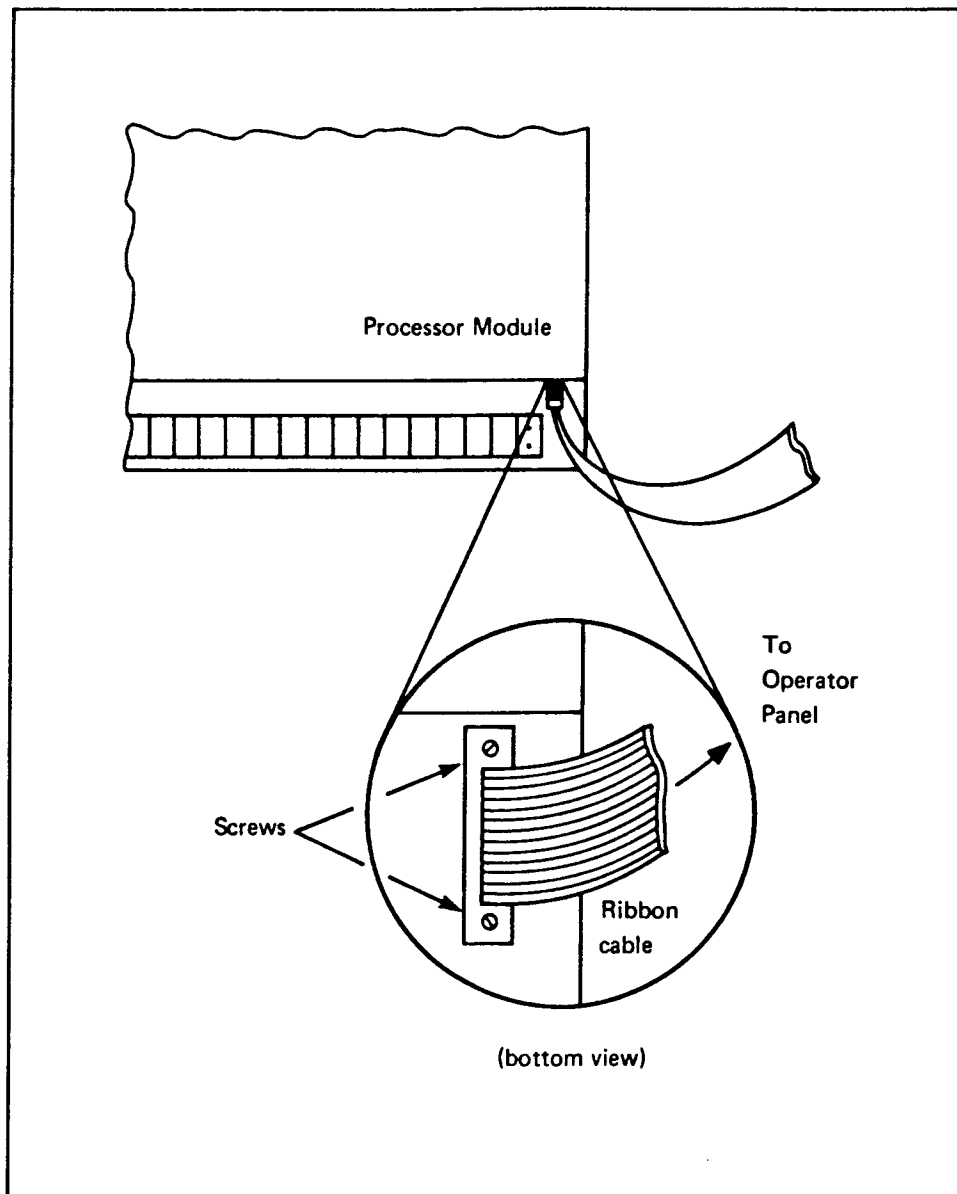

Figure 8.2 — Ribbon Cable Connector
Step 5 — Unscrew the 2 flat-head screws securing the cable connected between the Processor Module and the Operator Panel. (See Figure 8.2.) Note: alternately turn each screw a few turns CCW to prevent the connector from being skewed and damaging the pins.